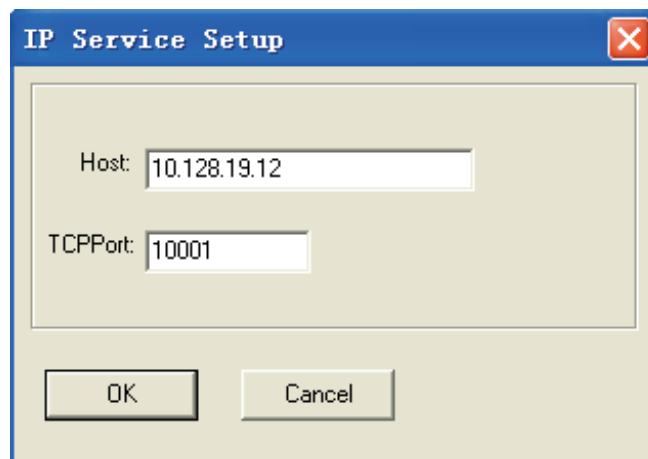

Figure 9: Interface of IP Service Setup
(3). Click **“Add IP”** and enter the interface of IP Service Setup, shown as figure 9: